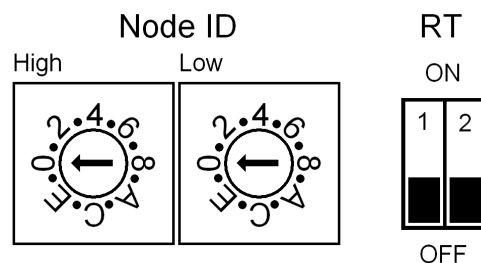

Figure 4: Dip-Switches
4.4 Dip-Switches (Figure 4)
4.4.1 Setting the node address: Node ID (Figure 4)
4.4.2 RT bus termination (Figure 4)